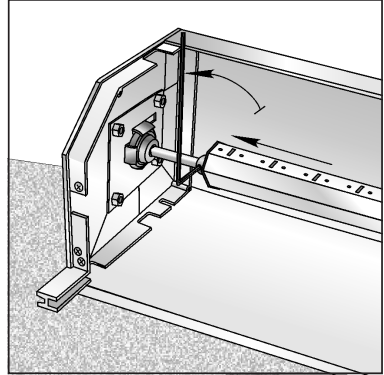

Fig. 22
- unscrew the expansion screw of the cap and pull out the bearing rod until it is seated in the ball bearing (Fig. 22);